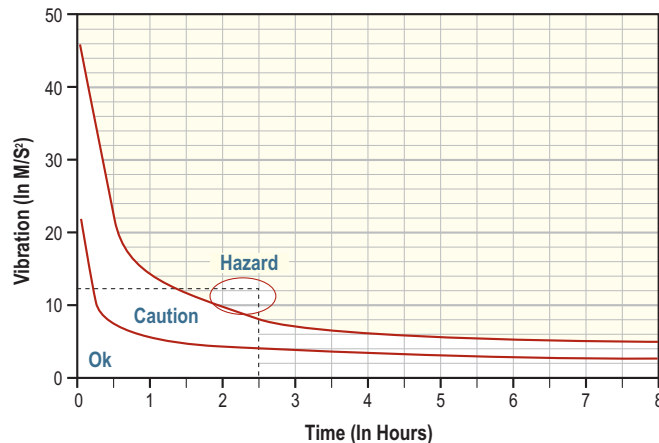

Figure 10.1 Vibration TLVs (m/s²) as a Function of Exposure Time (Hours)
3. Use Figure 10.1 to determine the intersection point and whether the exposure is acceptable, or if controls should be implemented. If vibration exposure is in the